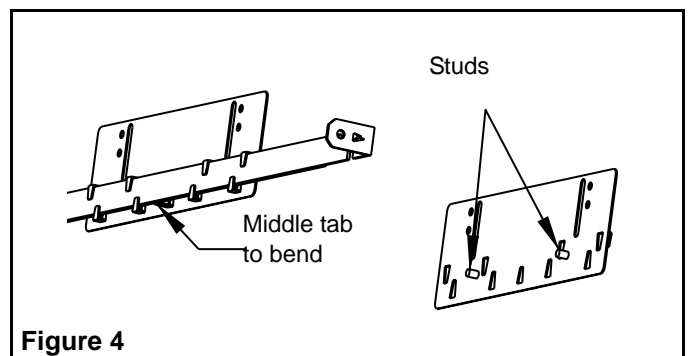

Figure 4
3. Slide hanger bars through the tabs in the adjustment brackets. If needed, bend the middle tab of the adjustment brackets over the hanger bars (see Figure 4). Align the “U” bracket as required and fix location by cutting a hole in the ceiling panel of the size of the “U” bracket (8-1/4 inch by 5-3/4 inch).
4. Rest the assembly on top of grid members. The notch on bars should hook over grid member (see Figure 5). Place the “U” bracket with its flange sit on the panel and tighten the nuts on the studs of the side brackets (see Figure 4). Secure the whole assembly to the ceiling joists by chains or “pencil rod” wires (provided by others).